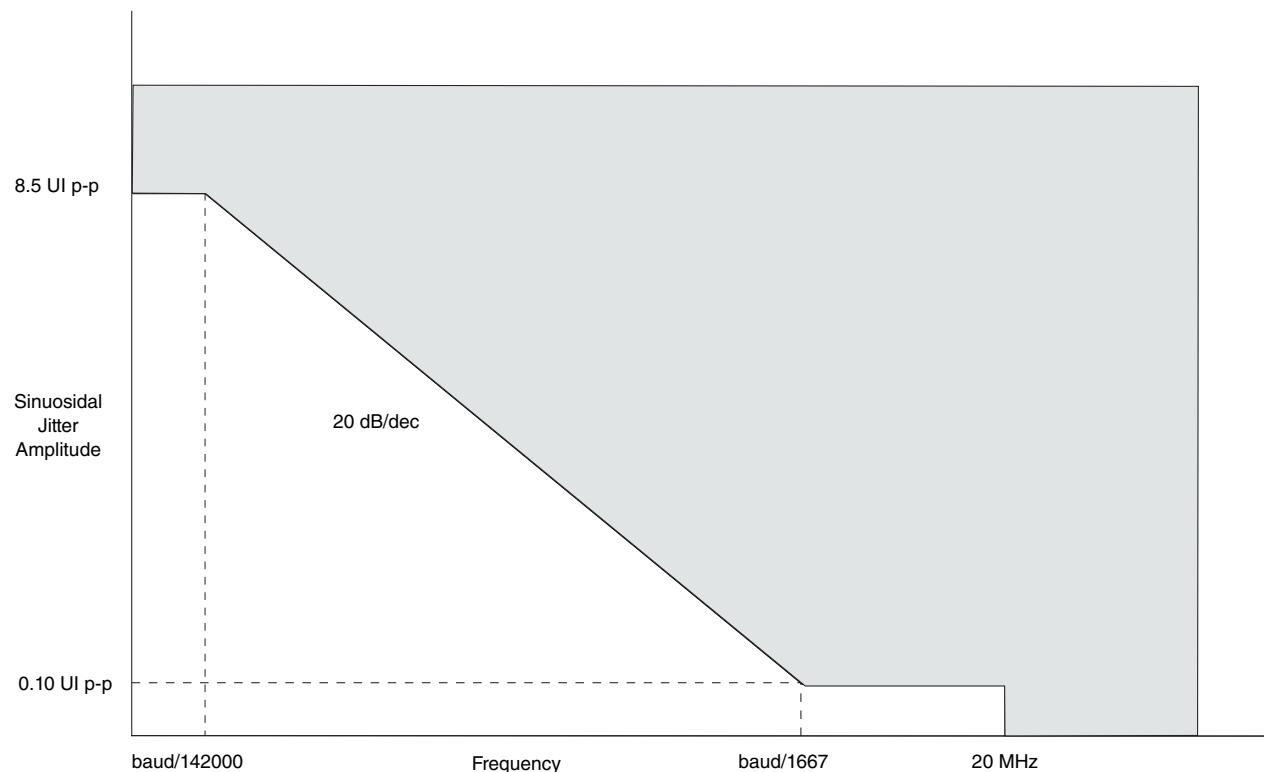

Figure 17. Single-frequency sinusoidal jitter limits
2. See Figure 17 for single frequency sinusoidal jitter measurements.
2. Total jitter tolerance is composed of three components: deterministic jitter, random jitter, and single-frequency sinusoidal jitter. The sinusoidal jitter may have any amplitude and frequency in the unshaded region of Figure 17. The sinusoidal jitter component is included to ensure margin for low frequency jitter, wander, noise, crosstalk, and other variable system effects.